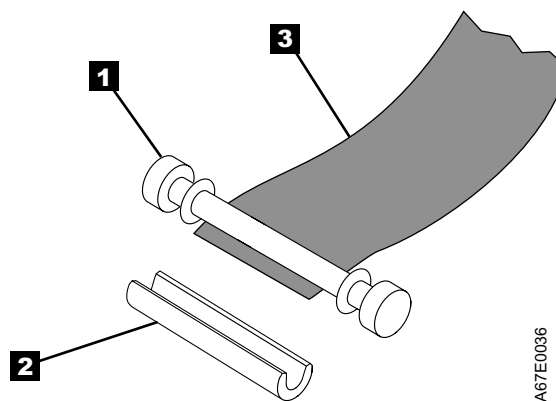

Figure 22. Removing the C-clip from the leader pin. Use your fingers to push the C-clip from the leader pin.
5. On the leader pin (**1** in Figure 22), locate the open side of the C-clip (**2**). The C-clip is a small black part that secures the tape (**3**) to the pin.